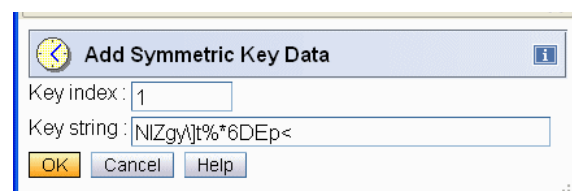

Figure 1-5 Add Key index and string
- The Key index and the Key string must be entered in the Add Symmetric Key Data panel (Figure 1-5). They need to match the definition in the target NTP server. Click **OK** when done. Repeat the steps if the NTP server has multiple keys defined and you want to optionally switch to a different key at any time later.